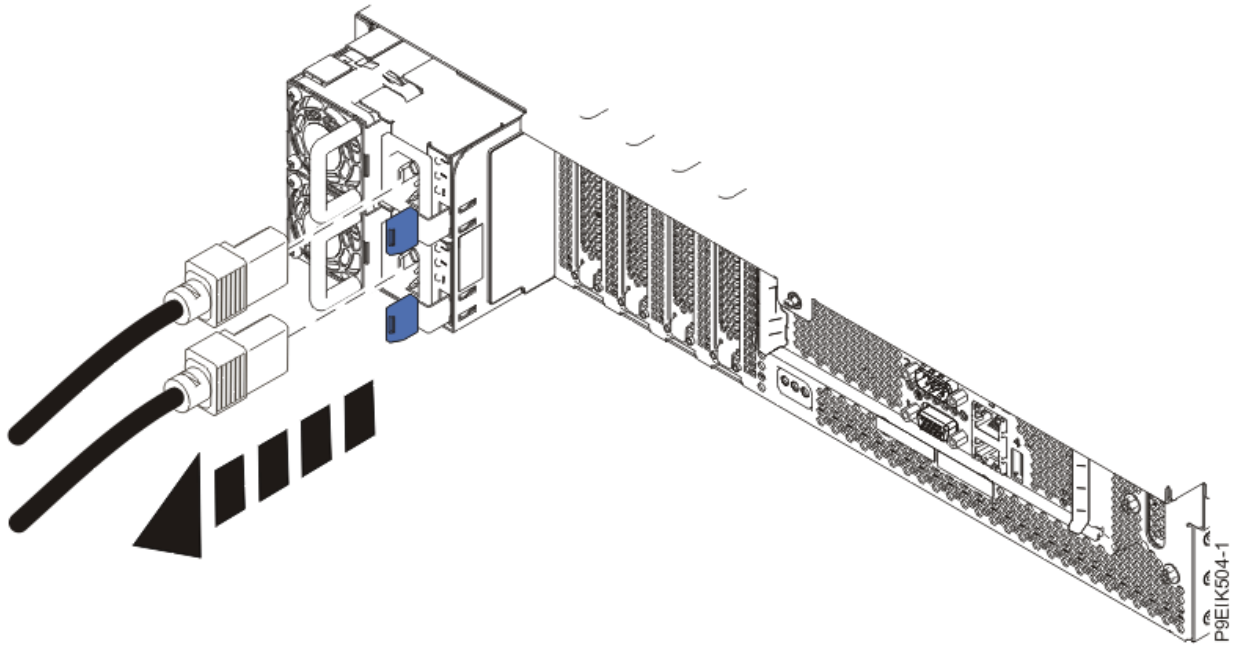

Figure 54. Removing the power cords from the system
4. Disconnect the power cords from the system unit as shown in Figure 54 on page 105.